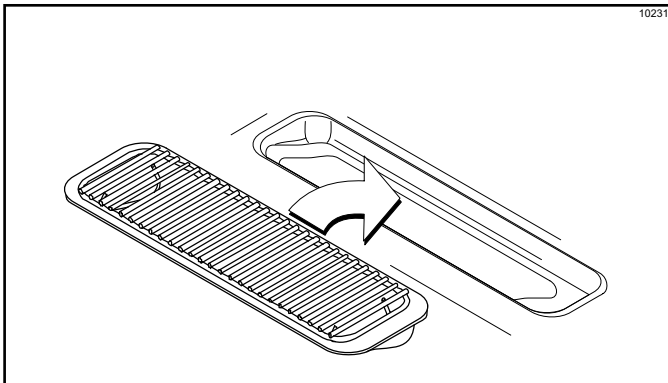

Figure 6-24
11. Install the front drip tray and splash shield under the door spouts. (See Figure 6-24.)